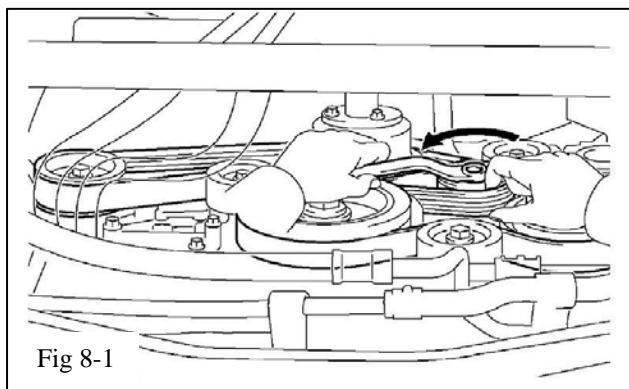

Fig 8-1
- (a) While releasing the belt tension by turning the belt tensioner counterclockwise, remove the belt from the power steering pump pulley (Figs 8-1 & 8-2). **NOTE: It is not necessary to completely remove the belt.**